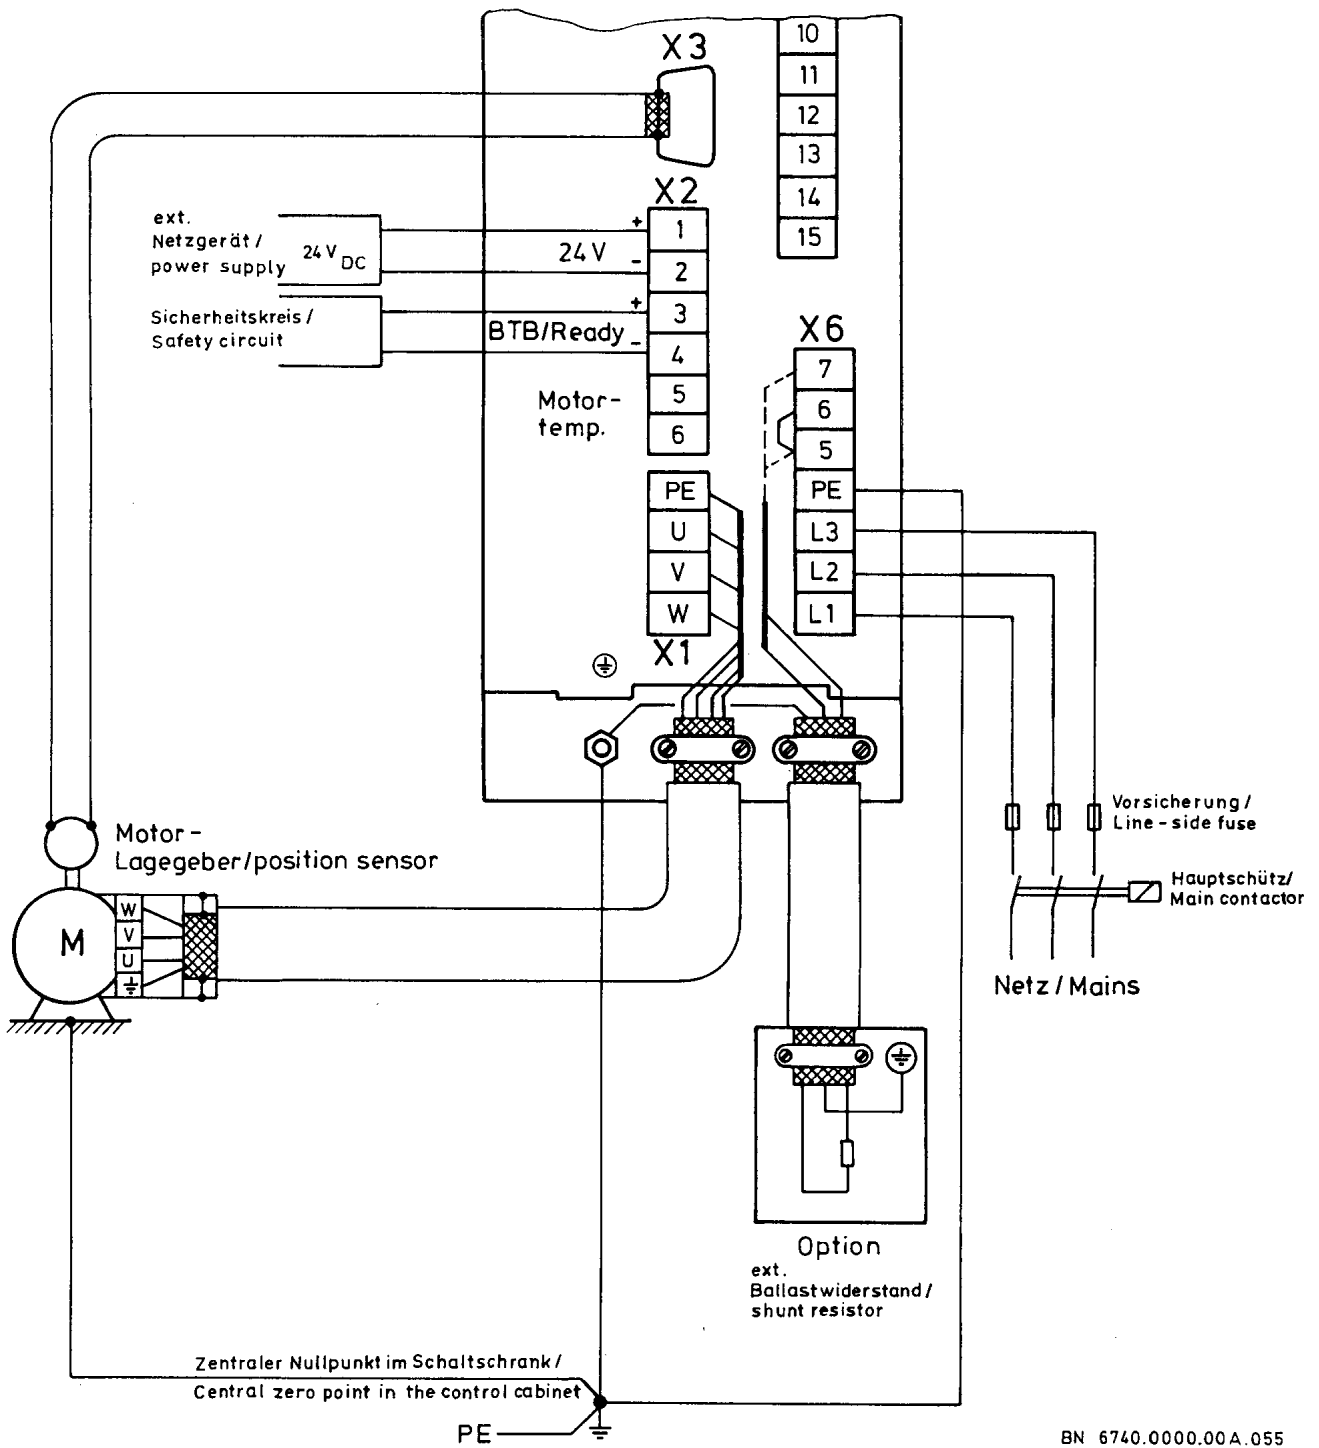

Figure 5: X1 to X3 and X6, Connection Instructions
Figure 5 shows the connection instructions for connectors X1 to X3 and X6.
Potential equalization cables originate in the central zero point of the control cabinet (see figure 5, page 54). They
The mains is connected directly at the servo amplifier via Combicon connector X6 (see figure 5, page 54).
The motor is connected at Combicon connector X1 by means of a 4-core shielded cable (see figure 5, page 54):
The control supply voltage +24 V DC is connected at Combicon connector X2 (see figure 5, page 54).
- connect the PE of the shunt resistor cable to the corresponding PE bolt (see figure 5, page 54).